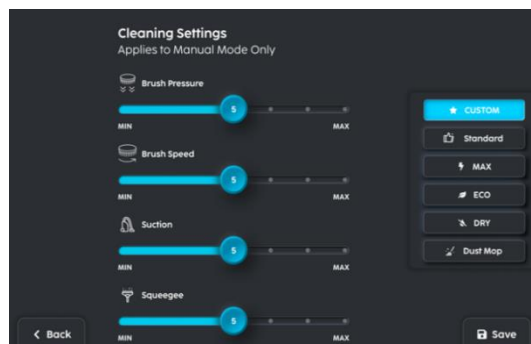

FIGURE 5-28
3. For 'Custom', the sliders (Fig. 5-28) control the Brush Pressure, Brush Speed, Suction, Squeegee pressure, Spray interval, Side Brush Speed, and Side Brush Pressure. Select your custom settings and select save.